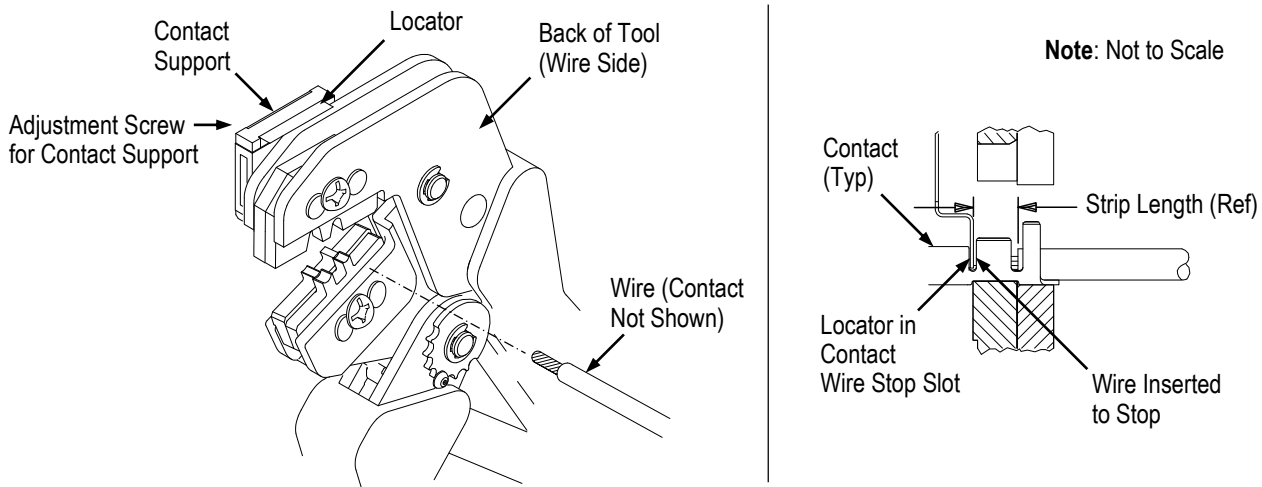

Figure 3
1. Crimp a sample according to Section 5 and determine if the contact is straight, bending upward, or bending downward. If adjustment is required (contact is bent), loosen the screw that holds the contact support onto the locator assembly. Refer to Figure 3.
3. Holding the contact by the mating end and so that the open “U” of the wire barrel faces the top of the tool, insert the contact—insulation barrel first—into the appropriate crimping chamber from the front of the tool. Position the contact up into the nest so that the locator drops into the slot in the contact. See Figure 3. Move the front end of the wire barrel against the locator.
5. Insert the stripped wire into the wire barrel until it butts against the wire stop as shown in Figure 3.